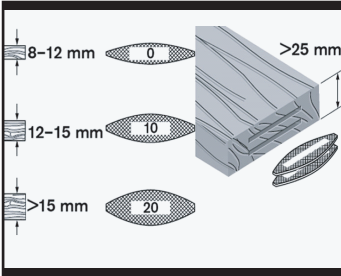

Fig. 6
3. SELECTION OF THE BISCUIT DOWEL (See Fig.6)
For a solid connection, use the largest possible biscuit dowel. Appropriate biscuit dowels are recommended to use according to Fig.6.